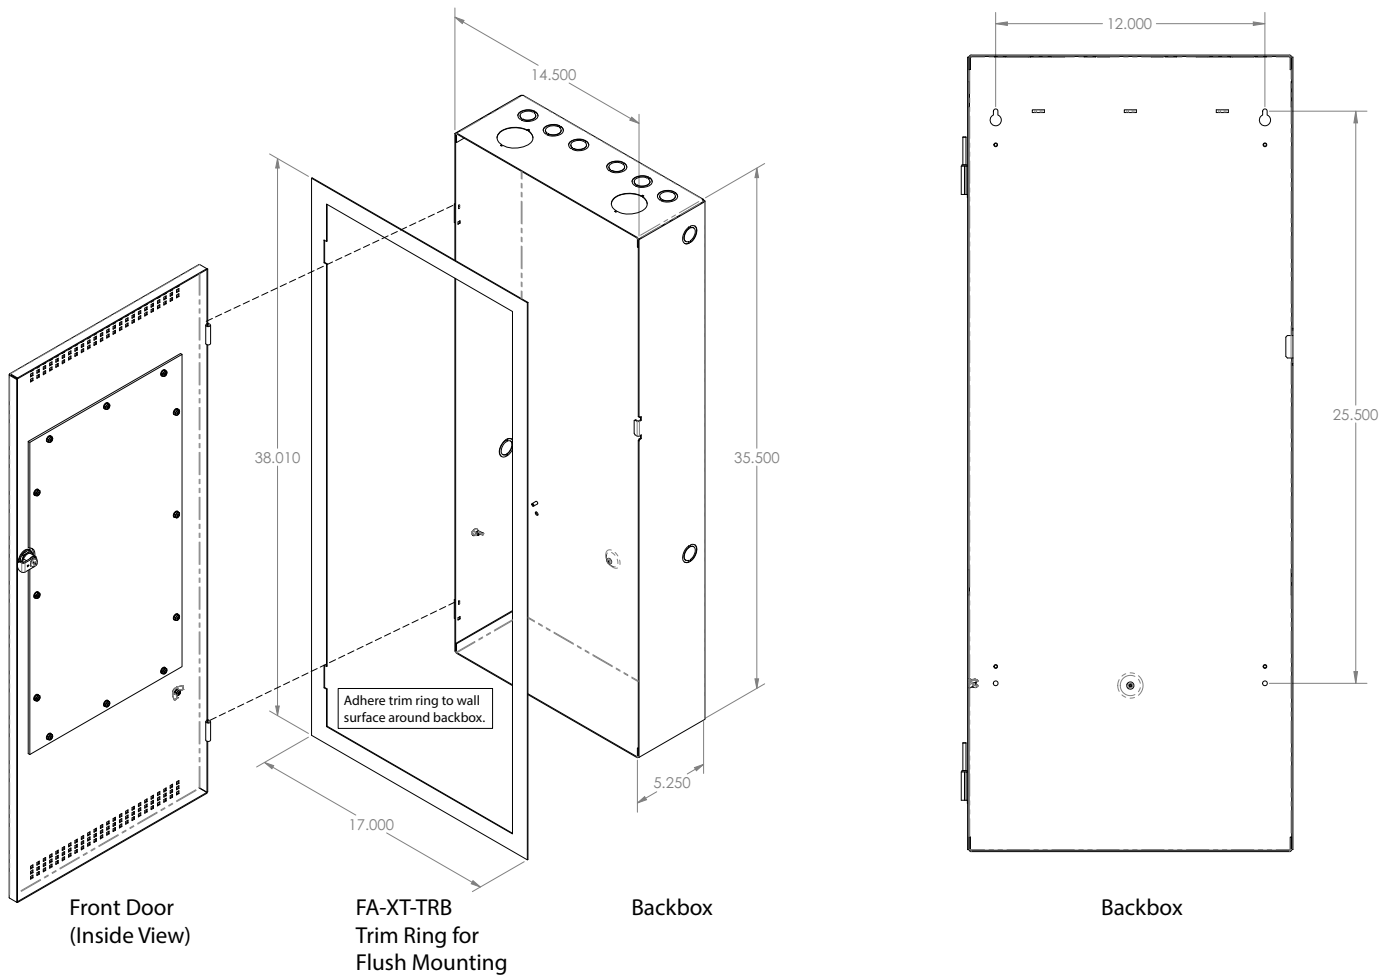

Figure 1: BBX-1024XT(R) Backbox Enclosure with Trim Ring
The dimensions of BB-1024XT(R) are 15.05" wide, 35.8" long, 5.43" deep. Figure 1 below shows backbox and door dimensions as well as the trim ring model FA-XT-TRB which is used for flush mounting of the enclosure. The backbox and trim ring is black and the door is available in white model BBX-1024XT and red model BBX-1024XTR. In all other respects, the BBX-1024XT and BBX-1024XTR are the same.